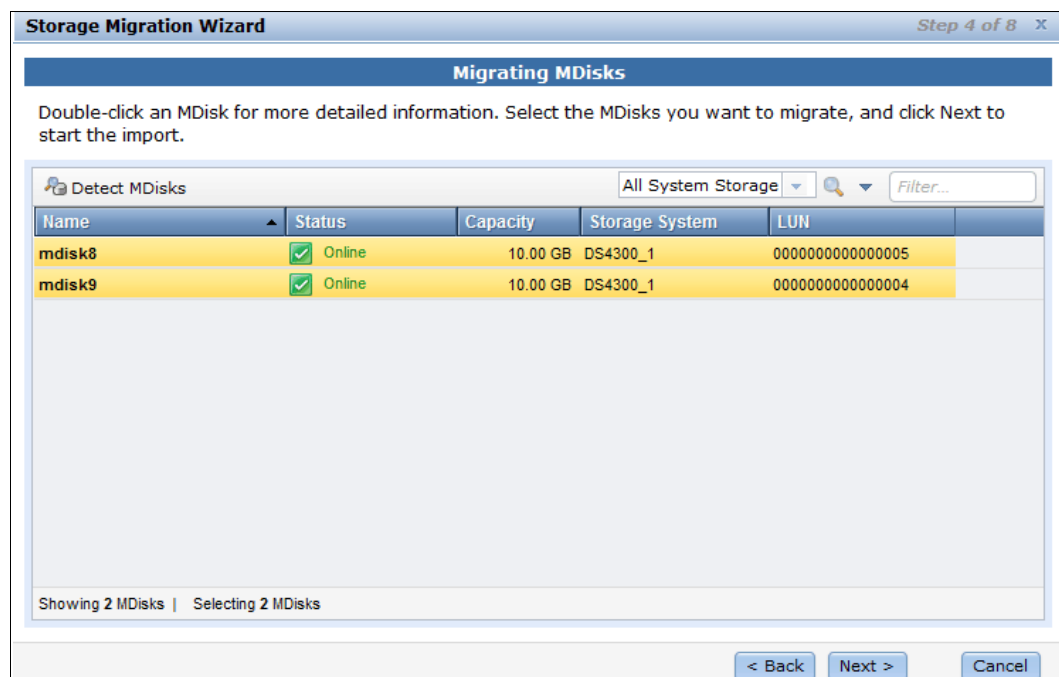

Figure 7-13 Storage Migration Wizard step 4 - Select MDisk
4. The Storage Migration Wizard performs MDisk scan automatically and any new or unused MDisks appear on the list. Choose the MDisks you want to migrate in Step 4 and click **Next** (Figure 7-13).
In Figure 7-13 on page 277, two LUNs are discovered as MDisk that are candidates for migration. In your particular situation, you might need to reference the information you recorded earlier to identify these MDisk. In our example, the MDisk have been selected to go forward to the next step.